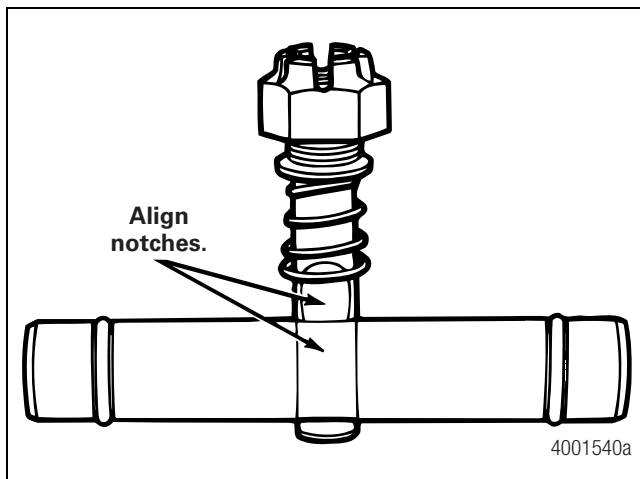

Figure 3.5
3. The notch in the slide pin retainer must be toward the bore for the slide pin. The notches in the retainer and the slide pin must engage when you install the slide pin. Figure 3.5.